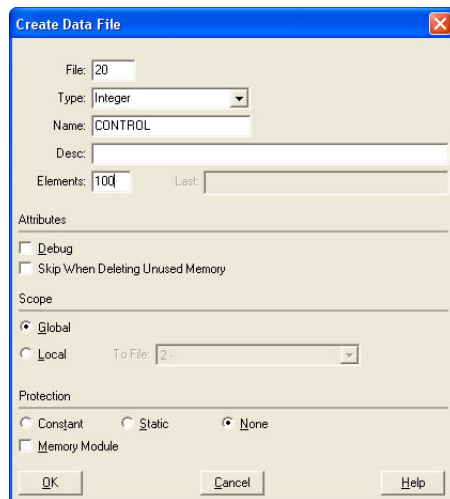

Figure 66: Creating a Control File
- Right click Data Files and select New... The “Create Data File” dialog box appears (refer to Figure 66).